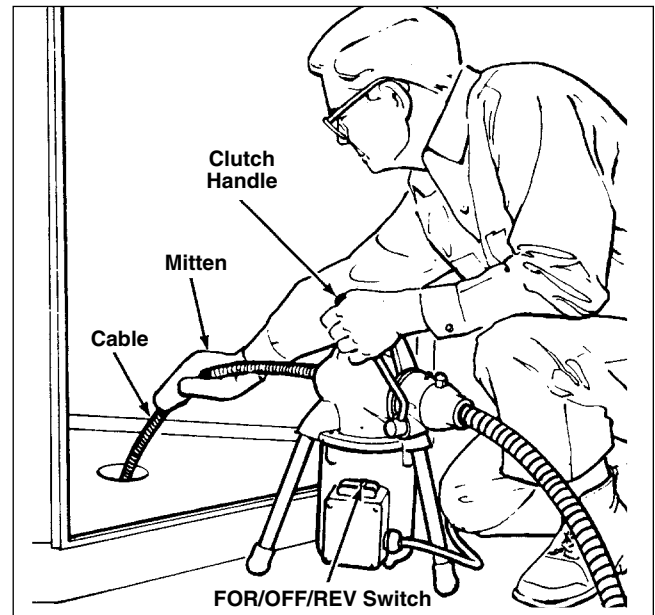

Figure 6 – Proper Operating Position
- Assume the correct operating posture in order to maintain proper balance (Figure 6).
1. Assume the correct operating posture in order to maintain proper balance (*Figure 6*).